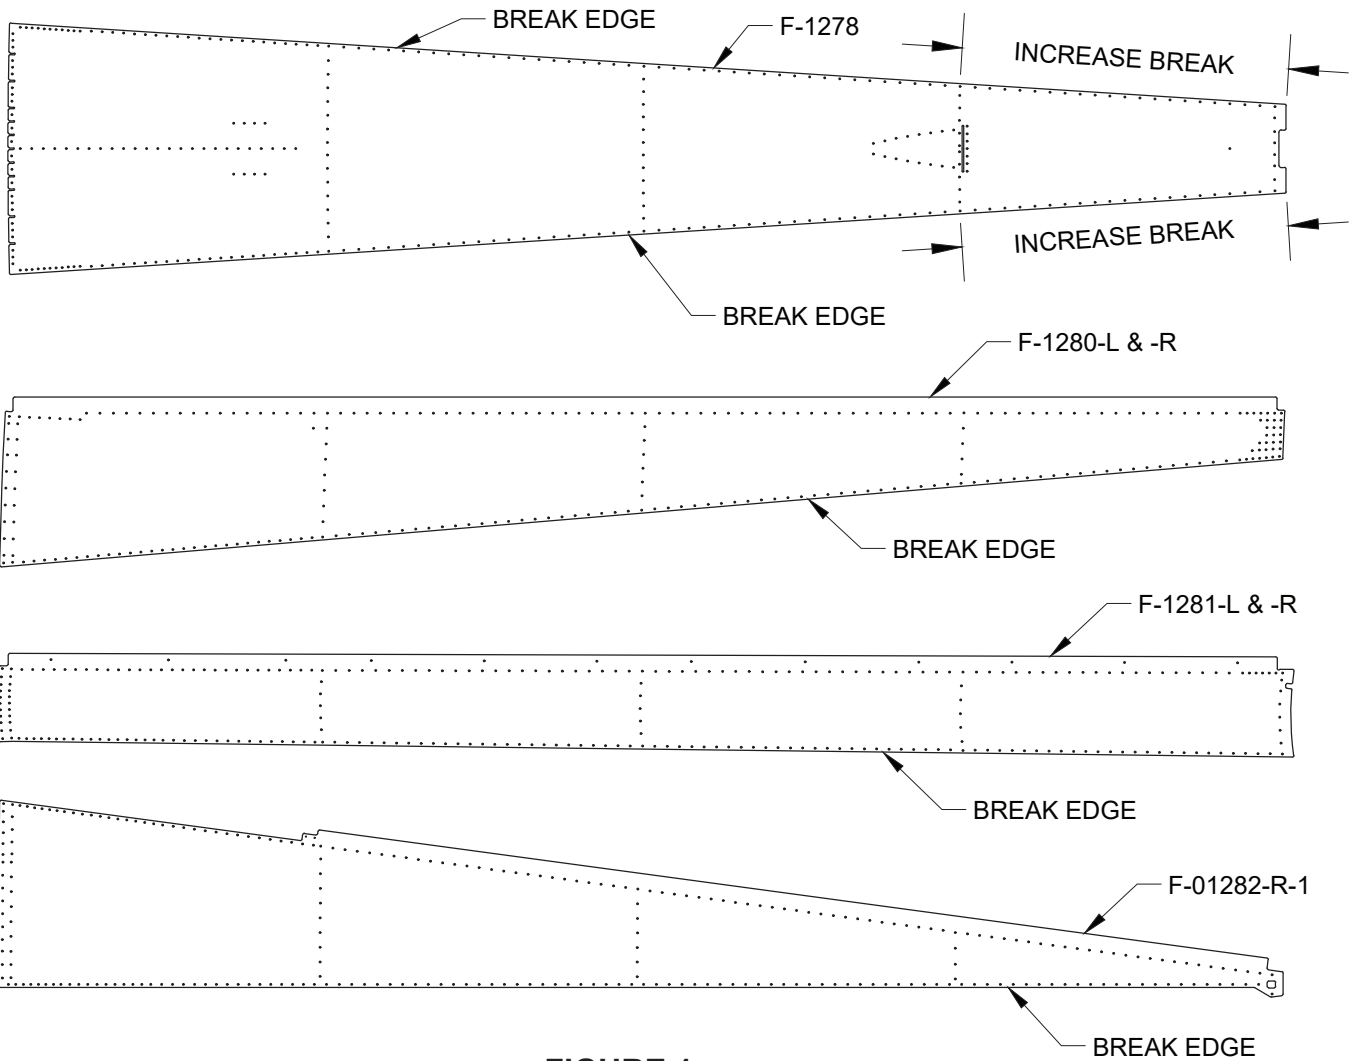

FIGURE 1:
Step 2: Prepare the skins shown in Figure 1 for a lap joint by deburring and breaking (Section 5K) the edges. The edges to be lap joints are called out in Figure 1. Both edges of the F-1278 Top skin must break in the same direction. The remaining skins must break in the same direction as the J-stiffener. Begin with the F-01282-R-1 Bottom Right Skin, since it is least likely to be seen. When breaking the edges of the F-1278 Top Skin gradually increase the break angle toward the aft end.